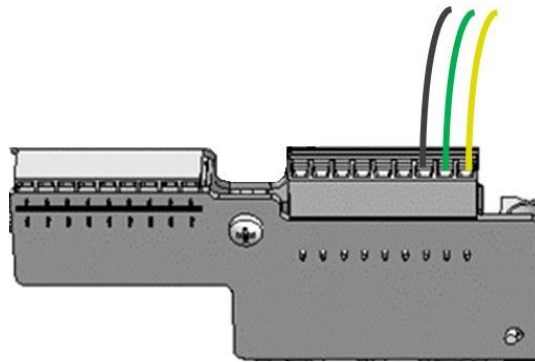

Figure 5: Inserting the 9-Pin Connector into the Surge Protection Board
- 5 Insert the 9-pin connector with the RS485 wires into the communication input socket of the surge protection board, as shown in Figure 5.